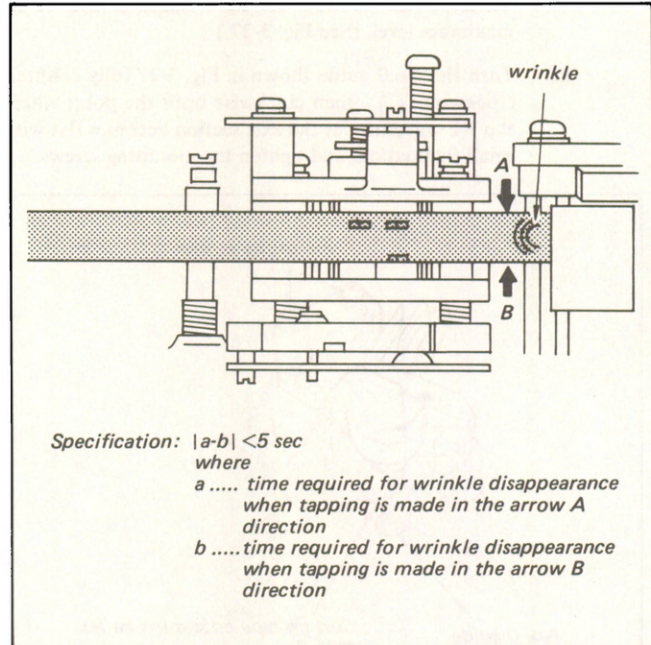

Fig. 3-31.
5. Tap the top and bottom of the tape around the capstan entrance and confirm that the specification shown in Fig. 3-31 is satisfied. If not, repeat Step 5 of Section 3-11-1, "Parallelism Adjustment of Pinch Press Lever".